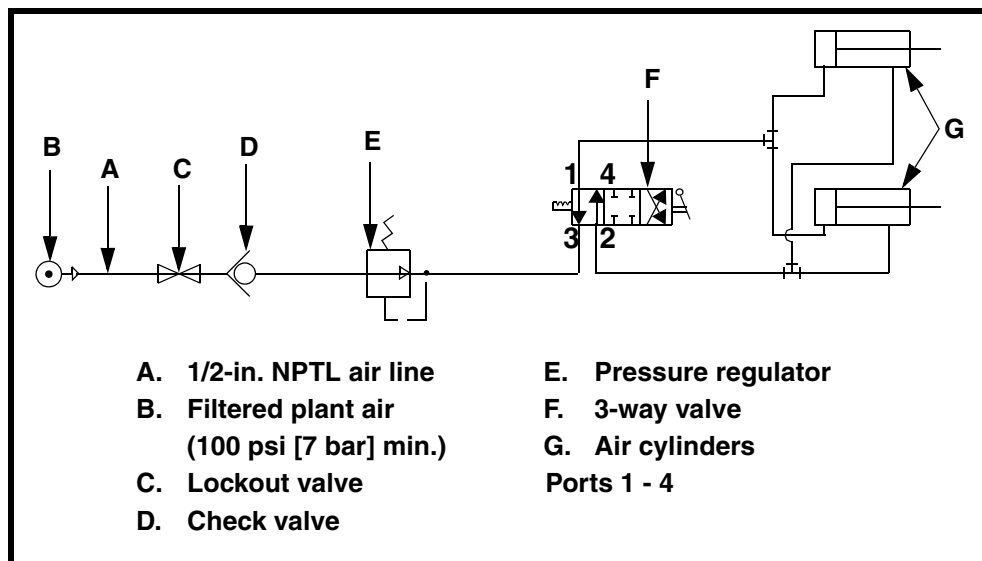

Figure 6. Air Cylinder Schematic
2. Install air line to air tensioner as shown in Figure 6.